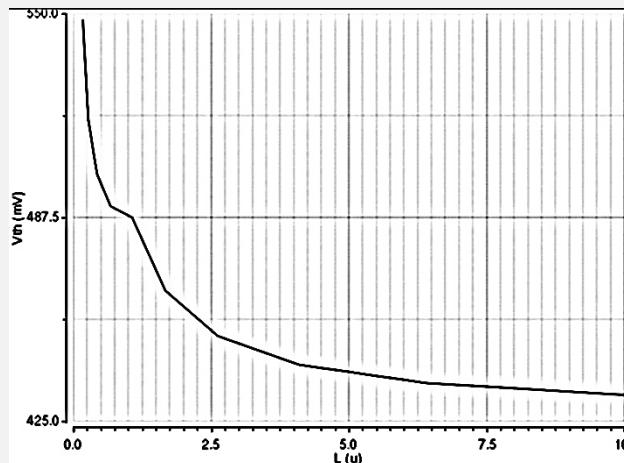

Figure 3.9: Reverse short channel effect
When L gets shorter, halo regions overlap, leading to effectively higher substrate doping, and thus higher V_T . This is called a **reverse short-channel effect** - V_T increase with decrease of L . This effect is shown in Fig.3.9
- Based on plot shown in Fig.3.9, measure the values of V_T at $L = 45nm, 180nm, 1\mu m, 5\mu m, 10\mu m$.